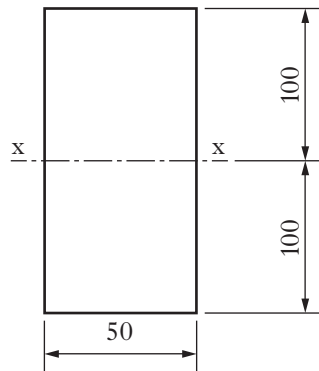

Figure Q5
5. The cross-sectional dimensions (in mm) of a beam are shown in Figure Q5.